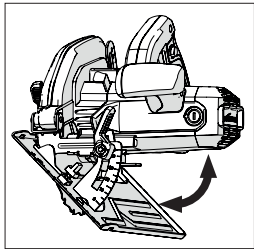

Fig. 14
- Tilt the blade to the required angle as indicated on the quadrant protractor scale. (**Fig. 14**)